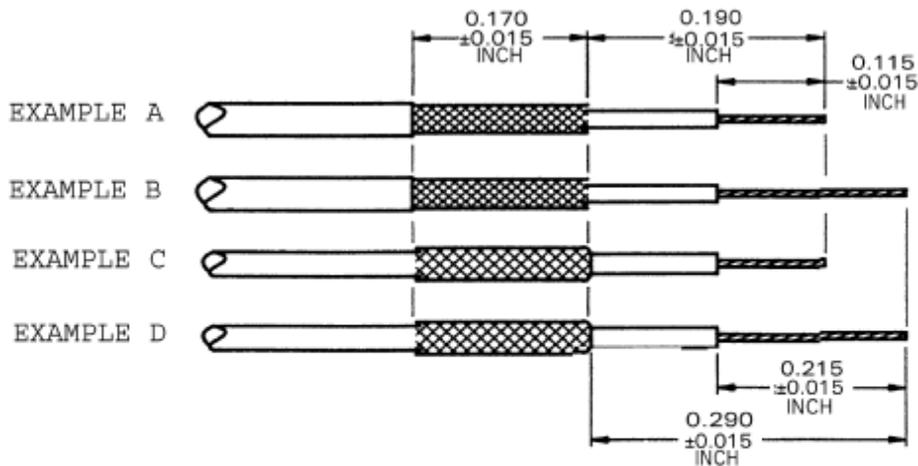
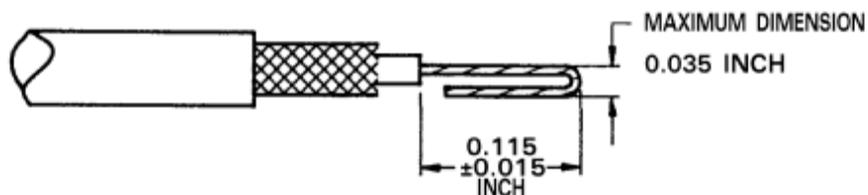

Figure 5-3. Coaxial Cable Stripping Dimensions (Refer to Table 5-1)
Figure 5-4. Small-Diameter Center Conductor Folded Back
2. Prepare the coaxial cable to the dimensions shown in the applicable example in Figure 5-3, based on the following criteria:
- NOTE: If the braid fold-back method is used, fold braid back over cable jacket and trim to the dimensions shown in Figure 5-3
7. If the center conductor strip length is 0.215 inch as shown in examples B and D of Figure 5-3, fold the center conductor back on itself as shown in Figure 5-4.